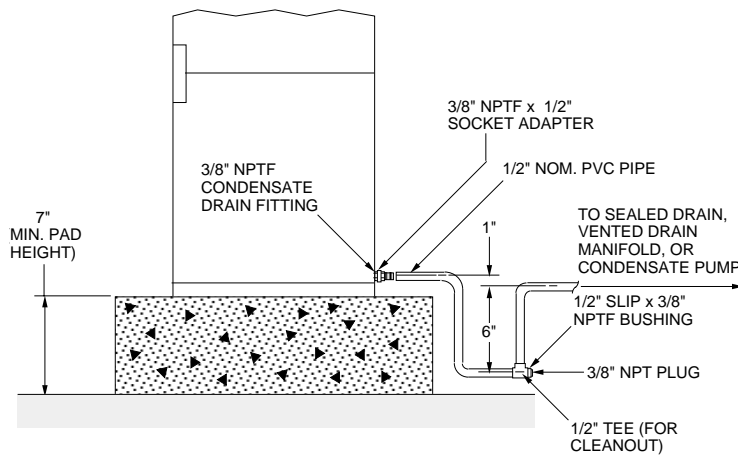

FIGURE 5.3
**Oversized Condensate Line with a “P” Trap:** The boiler must be installed on a solid pedestal that raises it at least 7" above the floor before an oversized condensate line with a “P” trap can be installed. Install the oversized condensate line with “P” trap and run it into a floor drain or to a condensate receiver tank or pump, see Figure 5.3.